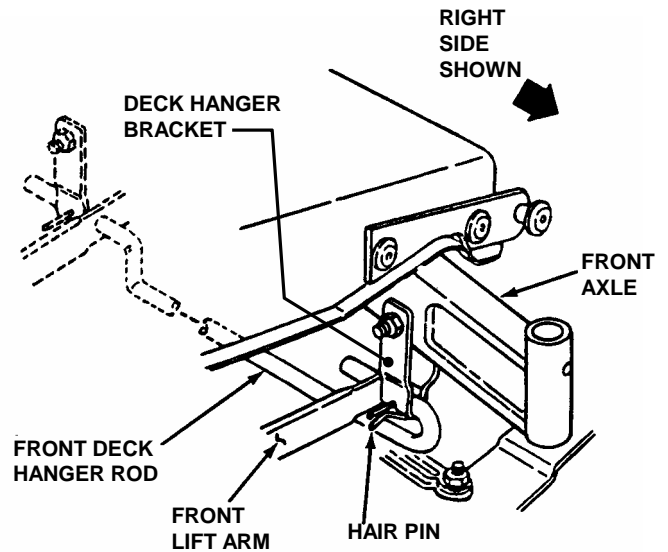

FIGURE 4.26
5. Remove hair pins from the front deck hanger rod and slide out the rod from deck hanger bracket. Front lift arms will now be disconnected. See Figure 4.26.